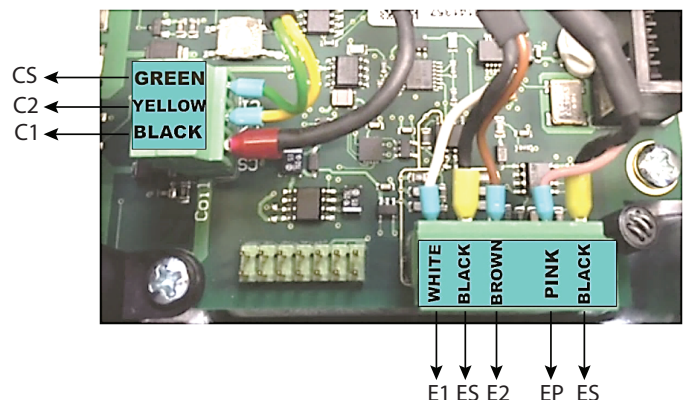

Figure 7: M2000 connector to amplifier housing/bracket assembly
7. Connect the wires inside the amplifier box according to *Figure 7*. Check that all connections are secure.